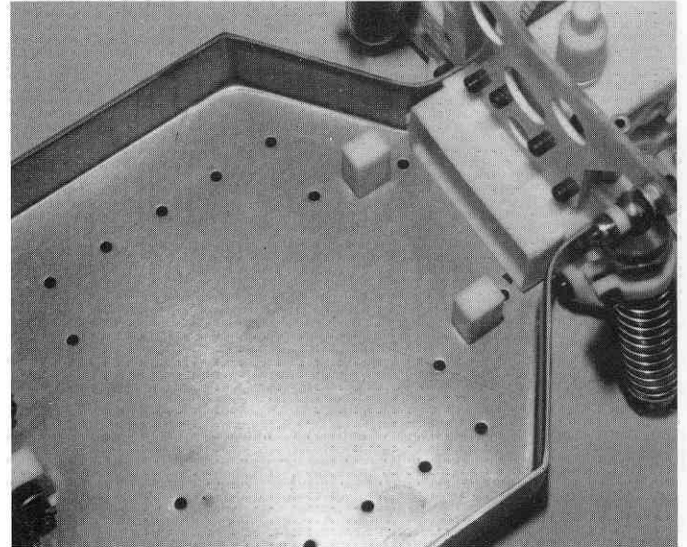
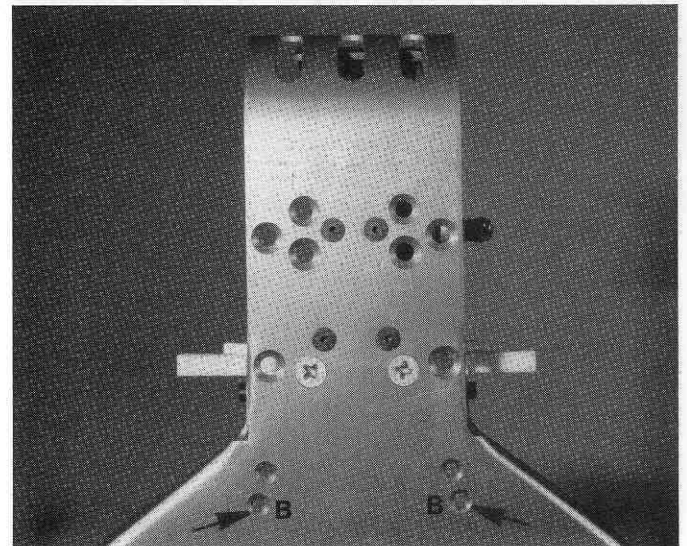
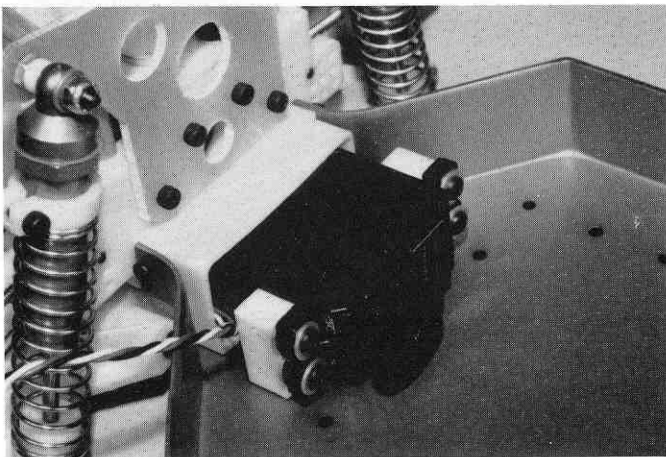

Fig. 129
Fig. 130
Fig. 132
□ **Fig. 129 & 130** See the beginning of radio installation section for a description of servo sizes (page 36). Do the following steps to mount a medium sized Futaba or Airtronics throttle servo. From bag #6-5 take two #6292 4/40 x 3/8" FHSScrews, and two plastic servo mounting blocks. Install the servo mounting blocks to the chassis using the "B" chassis mounting holes as in Fig. 130. The servo mounting blocks must be mounted with the chassis mounting hole to the back and the large section of the block to the front.
□ **Fig. 130** Use the "B" holes, as marked in photo, to mount medium size servo.
□ **Fig. 132** Reinstall the servo to the chassis, using the same #6292 4/40 x 3/8" fasteners used earlier, on the "B" mounting holes as shown in fig. 130. It is important that the servo horn and wiper clear the chassis by about 1/8" (3.1mm). This will prevent any possibility of the wiper hitting the chassis and grounding the battery to the chassis. Also some servos (the Futaba S28/S128 for instance) are very deep and may bottom out against the back of the bulkhead, making alignment with chassis holes difficult. In this case you should put washers between the mounts and the servo to space the servo away from the bulkhead.